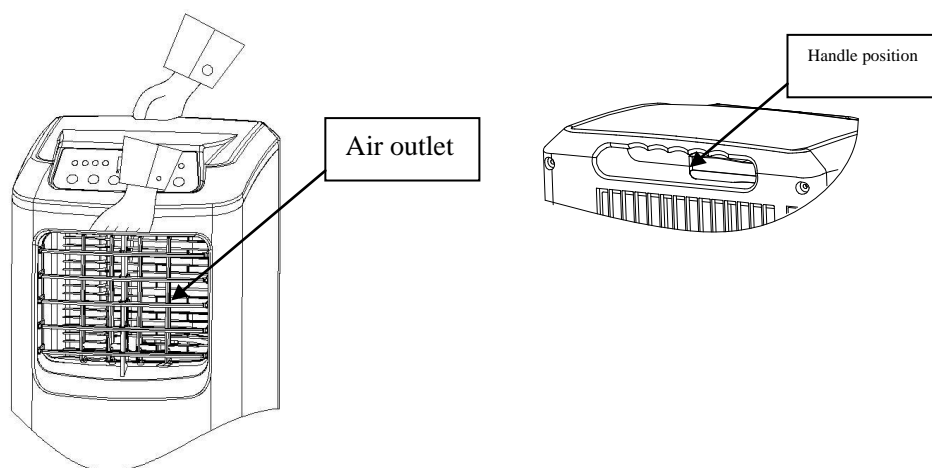

Figure 17
- 1). To handle or move the unit, hold the top of the air outlet of the front shell with one hand and the handle position at the top of the back shell with another hand, and move the unit in an upright position. (As shown in Figure 17).